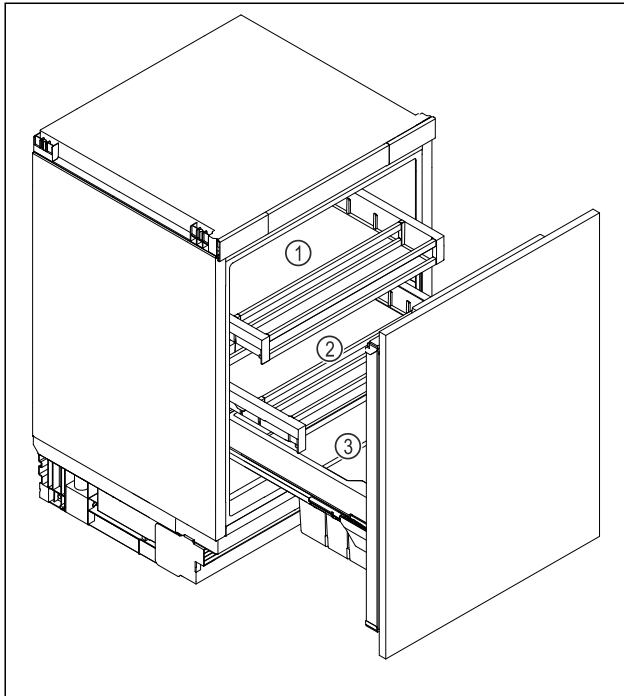

Fig. 6
- ▶ Top drawer Fig. 6 (1): Store butter, cheese, tinned food and tubes.
- ▶ Bottom drawer Fig. 6 (2): Store particularly perishable foods such as ready meals, fish, meat and sausage products.
- ▶ Fruit and vegetable box Fig. 6 (3): Store packaged fruit and vegetables.
- ▶ Drinks compartment Fig. 6 (3): Store individual bottles.